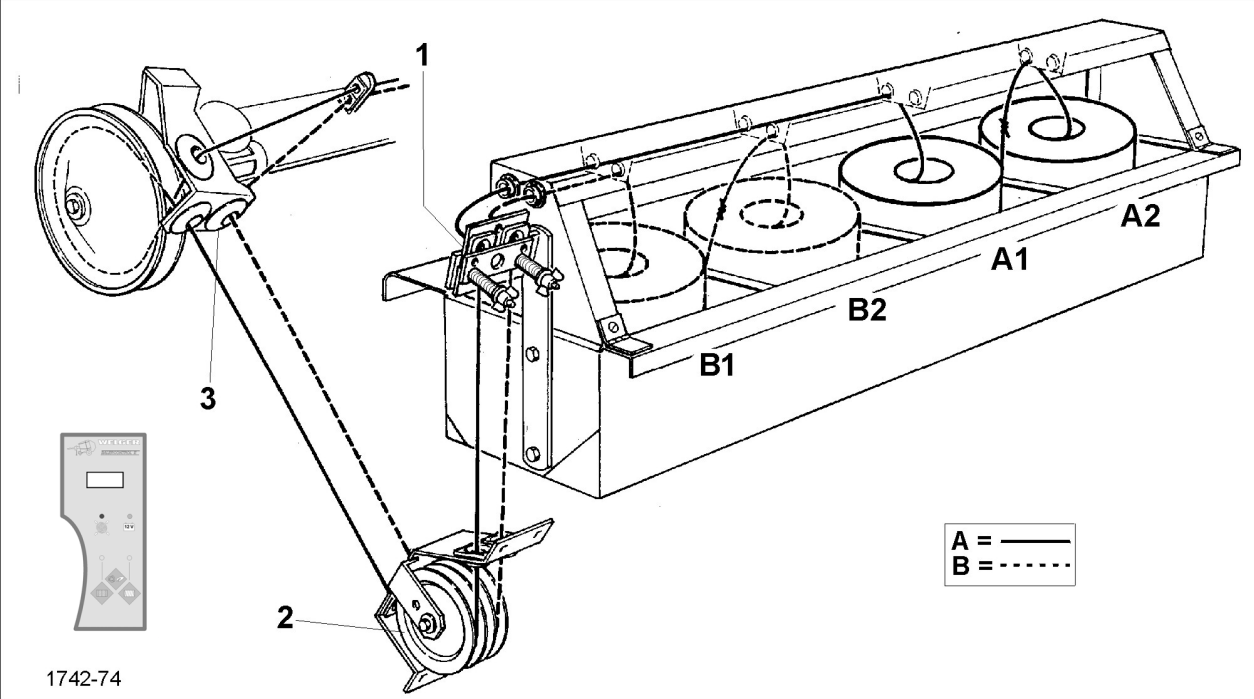
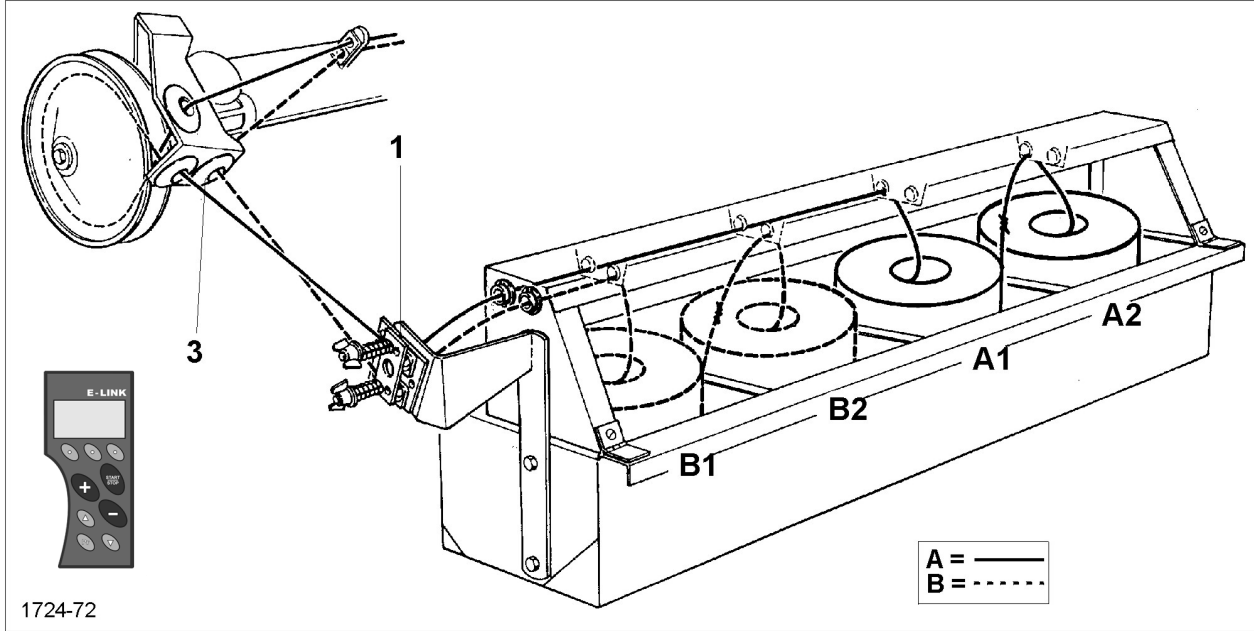
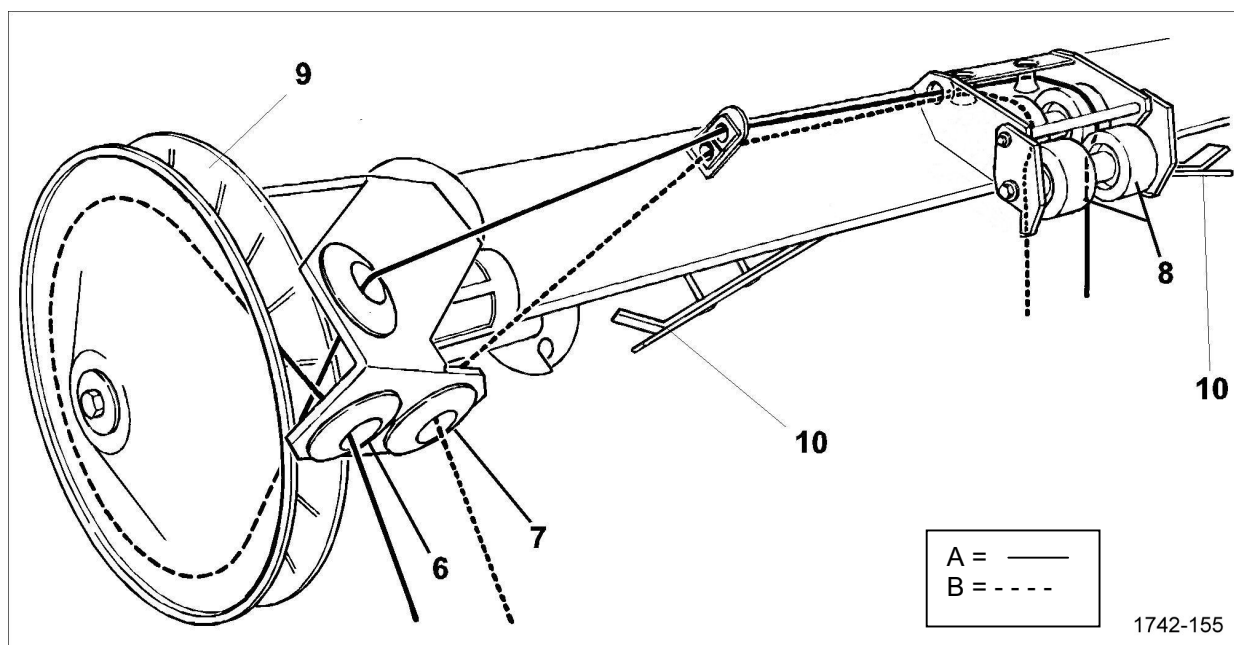

Figure 25
Figure 26
Figure 27
(Drawn consequently in Figure 25 to Figure 27 ——— )
(Drawn as dotted line in Figure 25 to Figure 27 - - - - - )
- ☐ For continuation go to Figure 27.
- ❑ Guide twines A and B through to the guide rollers [8] as shown in Figure 27.
BALERCONTROL E  (see Figure 25).	E-LINK  (see Figure 26).
The twines brakes [1] (Figure 25 and Figure 26 ) must hold the twines as taut as possible for the twine to be tight around the bales.
**Note!** The permitted thread tension is exceeded when the twine breaks in the vicinity of the guide rollers [8] (Figure 27).
The distance between the wrappings is given by the diameter used for the variable diameter disc [9] (Figure 27). The smaller the effective diameter of the disc, the greater the distance between the wrappings.